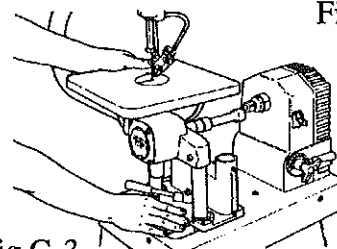

Fig.G-3
6. Unlock the carriage (21) by turning the handle (19) to the left. With your hands placed on the carriage and Jigsaw, slide the carriage and Jigsaw toward the Power Station's drive shaft hub (31) until the coupler almost touches the hub. See Fig.G-3.
7. Lock the carriage by turning the handle (19) to the right.